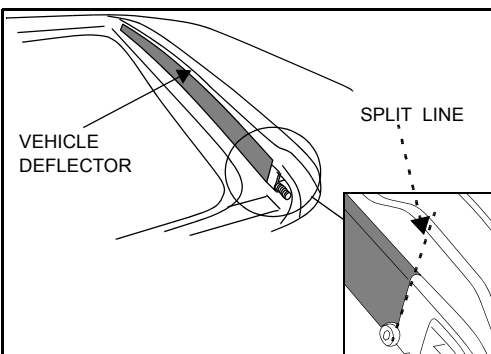

Figure 4.
4. Locate the split line at each end of the vehicle deflector. This will have a screw at the bottom edge. See Figure 4.